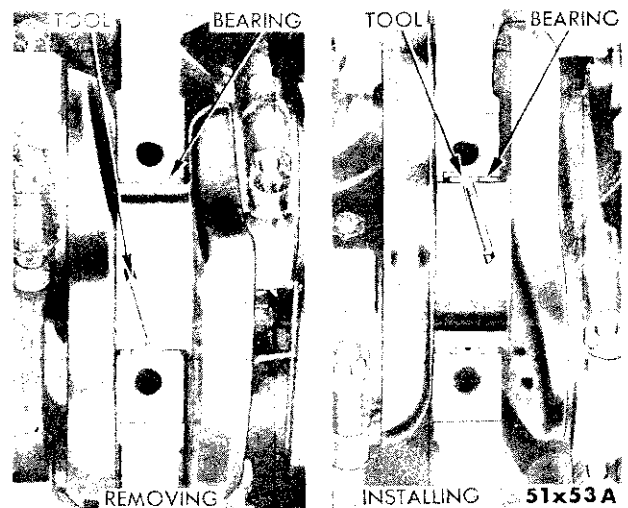

Fig. 50—Removing or Installing Main Bearing Upper Shell
(1) Remove the oil pan and mark bearing caps before removal
(2) Remove bearing caps one at a time. Remove upper half of bearing by inserting Tool C-3059 (Figure 50) into the oil hole of crankshaft.
(1) Lubricate the bearing. Start bearing in place, and insert Tool C-3059 into the oil hole of crankshaft (Figure 50).
(2) Slowly rotate the crankshaft counter-clockwise sliding the bearing into position.
(3) After all bearings have been fitted, tighten all caps to 85 foot-pounds torque. The crankshaft end clearance at #3 main bearing should be .002 to .007 inch.